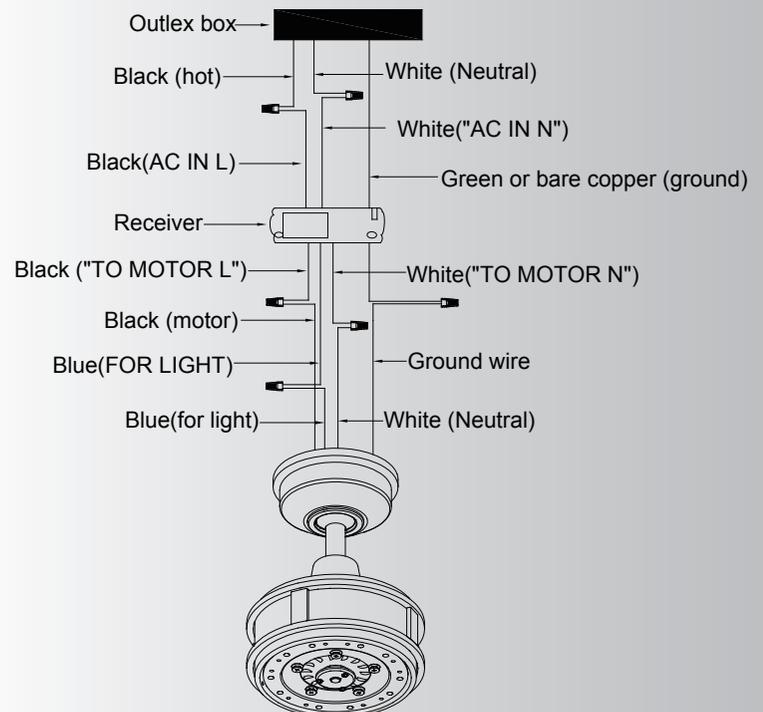

Fig. 14
**Step 2. Motor to Receiver Electrical Connections:** Connect the BLACK wire from the fan to BLACK wire marked "TO MOTOT L" from the receiver. Connect the WHITE wire from the fan to the WHITE wire marked "TO MOTOR N" from the receiver. Connect the BLUE wire from the fan to the BLUE wire marked "FOR LIGHT " from the receiver. Secure all the wire connections with the plastic wire nuts provided. ( Fig. 14)
**Step 3.** Remote Receiver to Outlet Box Electrical Connections: Connect the BLACK (hot) wire from the ceiling to the BLACK wire marked “AC in L” from the receiver . Connect the WHITE ( neutral ) wire from the ceiling to the WHITE wire marked “ AC in N” from the Receiver . Secure the wire connections with the plastic wire nuts provided . ( Fig. 14)
**Step 4.** If your outlet box has a ground wire ( green or bare copper ) connect it to the fan ground wires : otherwise connect the hanging bracket ground wire to the mounting bracket. Secure the wire connection with a plastic nut provided. After connecting the wires, spread them apart so that the green and white wires are on one side of the outlet box and black and blue wires are on the other side. ( Fig. 14)